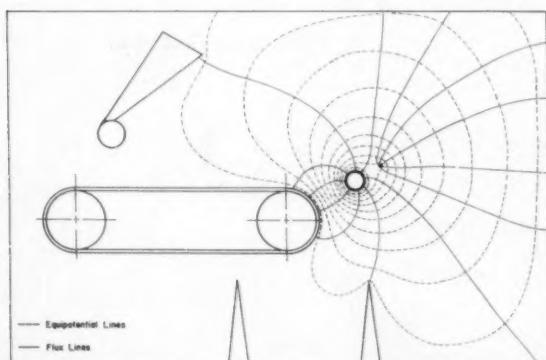

Fig. 4 Field resulting from electrode in the lifting position
Since the electric field surrounding the energized electrode is of basic importance in electrostatic separations, an analog field plotter was used to obtain two-dimensional plots of fields for various electrode positions. Figs. 4, 5, and 6 show, respectively, field patterns for the lifting, pinning, and combination positions (3). As determined by experiment, any of these positions or other intermediate electrode rotations may be required for optimum separating results.
It appears desirable to make an analysis of factors of strength and use that are particularly appropriate to lumber framing in farm buildings. This analysis would lead to an estimated frequency distribution of the true factor of safety similar to that in Fig. 4. Such a frequency distribution would provide a basis for appraisal of various levels of working stress for factor of safety and probability of failure.